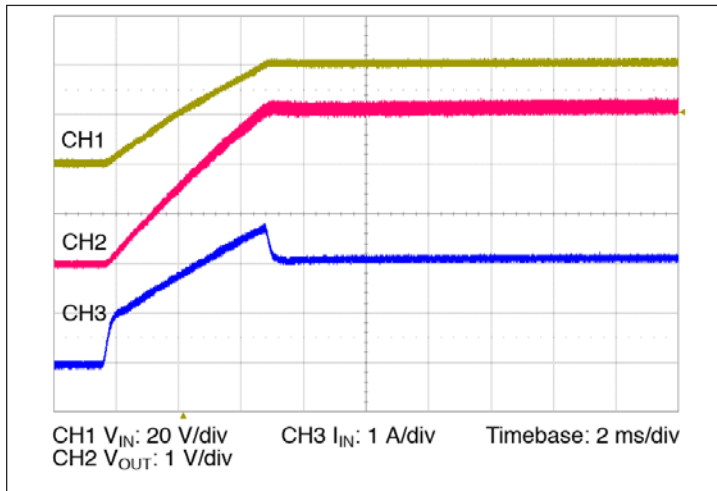

Figure 13 – Start up from application of  $V_{IN}$ ; VC pre-applied  $C_{OUT} = 0 \mu$ F
- Normal Operation (VC applied prior to VIN): In this case the controller is active prior to ramping the input. When the input voltage is applied, the VTM output voltage will track the input (See Figure 13). The inrush current is determined by the input voltage rate of rise and output capacitance. If the VC voltage is removed prior to the input reaching 26 V, the VTM may shut down.